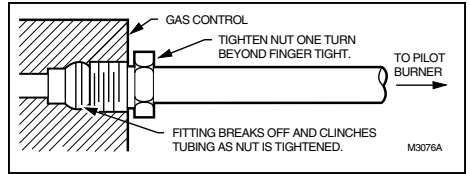

Fig. 4—Always use new compression fitting.
3. Unscrew brass compression fitting from pilot gas outlet. Refer to Fig. 4. Slip fitting over tubing and slide out of way.
NOTE: When replacing a control, cut off old compression fitting and replace with new compression fitting provided on new combination gas control. Never use old compression fitting as it may not provide a gas-tight seal. Refer to Fig. 4.